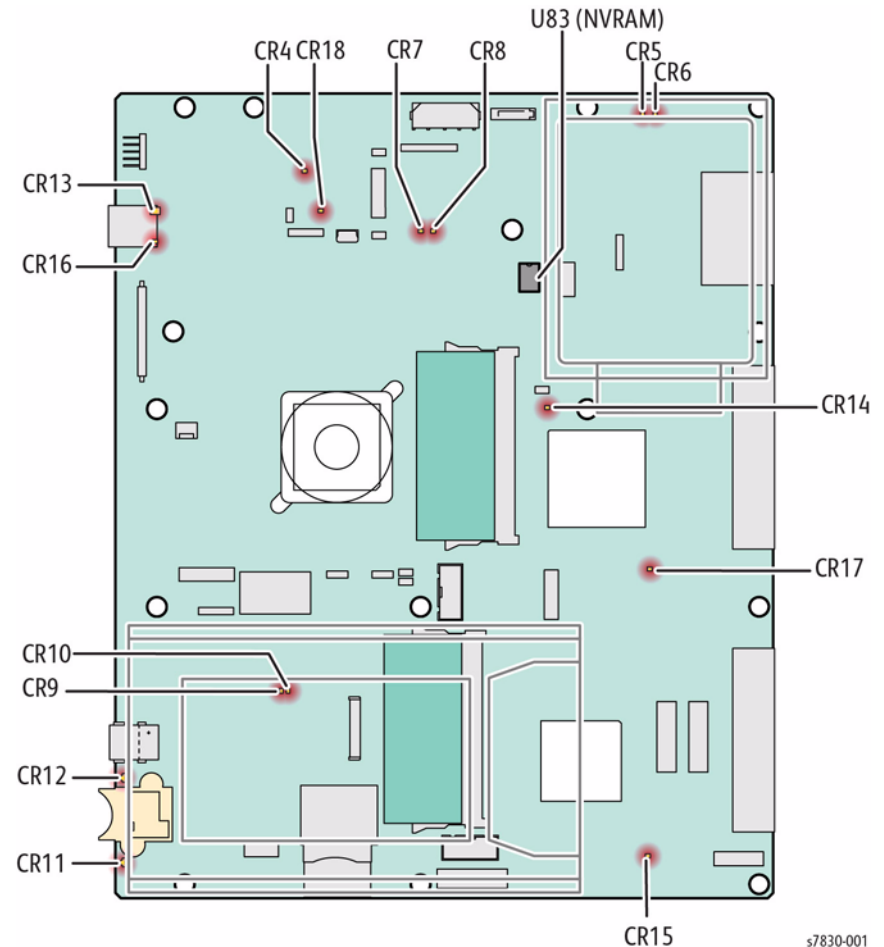

Figure 1 SBC Debug LED Locations
Boot failures can be caused by hardware failures in the SBC, or communication failures between the SBC and the rest of the machine. The SBC has several debug LEDs mounted onboard to indicate board activity. See Figure 1. Also mounted to the SBC is a 7-segment display that changes state as the boot-up progresses. See OF 3.3 for details.
1. Check the state of the SBC debug LED's, Figure 1. Refer to Table 1 to determine the fault state. If the debug LEDs indicate a problem on the SBC, follow procedures listed in the table.